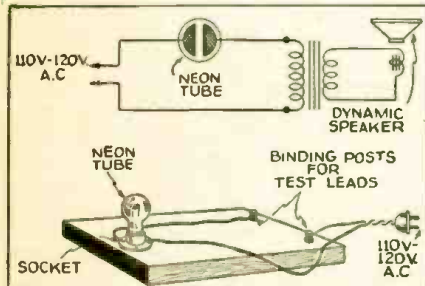

Fig. 3. Neon bulb helps center speaker cones.
**NEON BULB HELPS CENTER SPEAKER CONE.** I like your fine magazine very much, especially the "Analyses of Radio Receiver Symptoms—Operating Notes," as I am a Service Man. I have a kink which you may find a place for. It is for centering dynamic speaker cones. It consists of a 110-V. neon bulb in series with the speaker output transformer primary and the A.C. line (see Fig. 3). A low-pitched hum will be reproduced. The centering screws should be